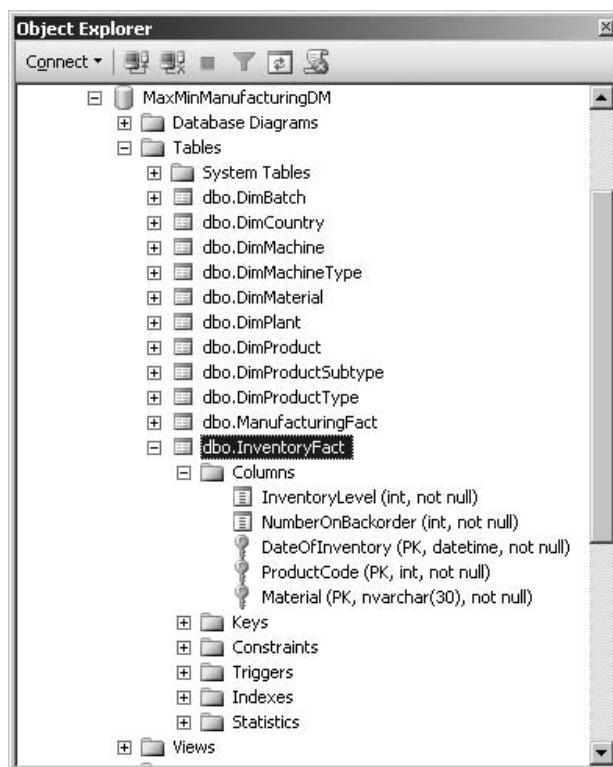

Figure 8-16 The *InventoryFact* table
8. Click the Save toolbar button to save this table design. Click Yes in the dialog box listing the tables to be affected. The InventoryFact table should appear as shown in Figure 8-16.